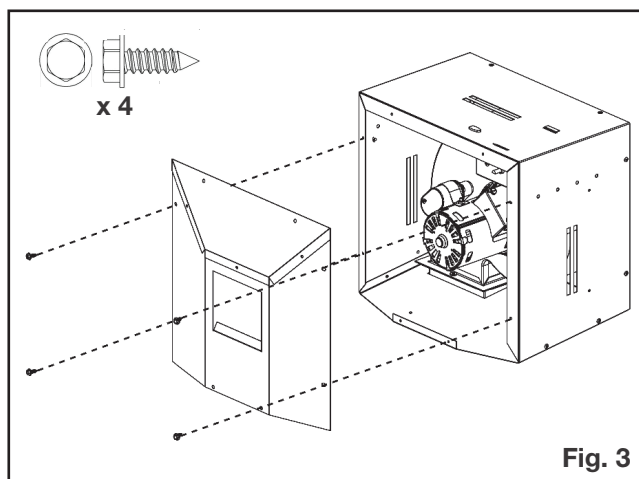

Fig. 3
17. Install/reinstall the inline cover assembly using 4 screws (supplied) (**Fig. 3**).